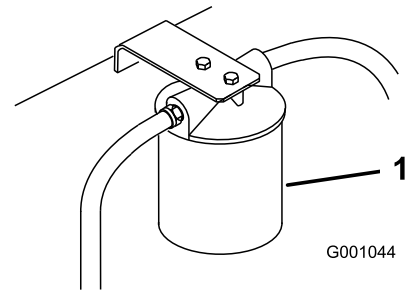

Figure 58
3. Place a drain pan under filter, remove the old filter and wipe the filter adapter gasket surface clean (Figure 58).